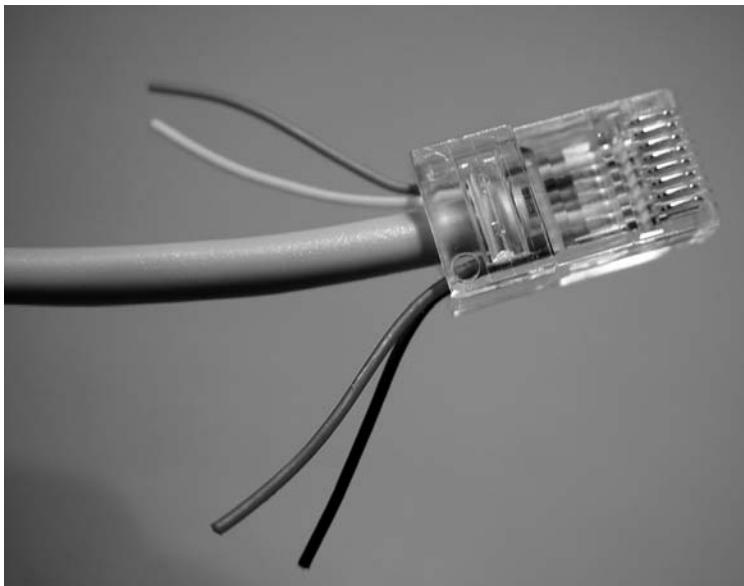

FIGURE 5-8: Using spare wires as a guide. Don't forget to remove them before you crimp!
5. Position the RJ-45 connector pin-side up. Carefully insert the wire into the connector, skipping the two holes on the left. As an aid, I take four extra lengths of wire and insert two of them in the two rightmost slots and two in to the two leftmost slots. This helps guide the four wires into the correct slots as shown in Figure 5-8.